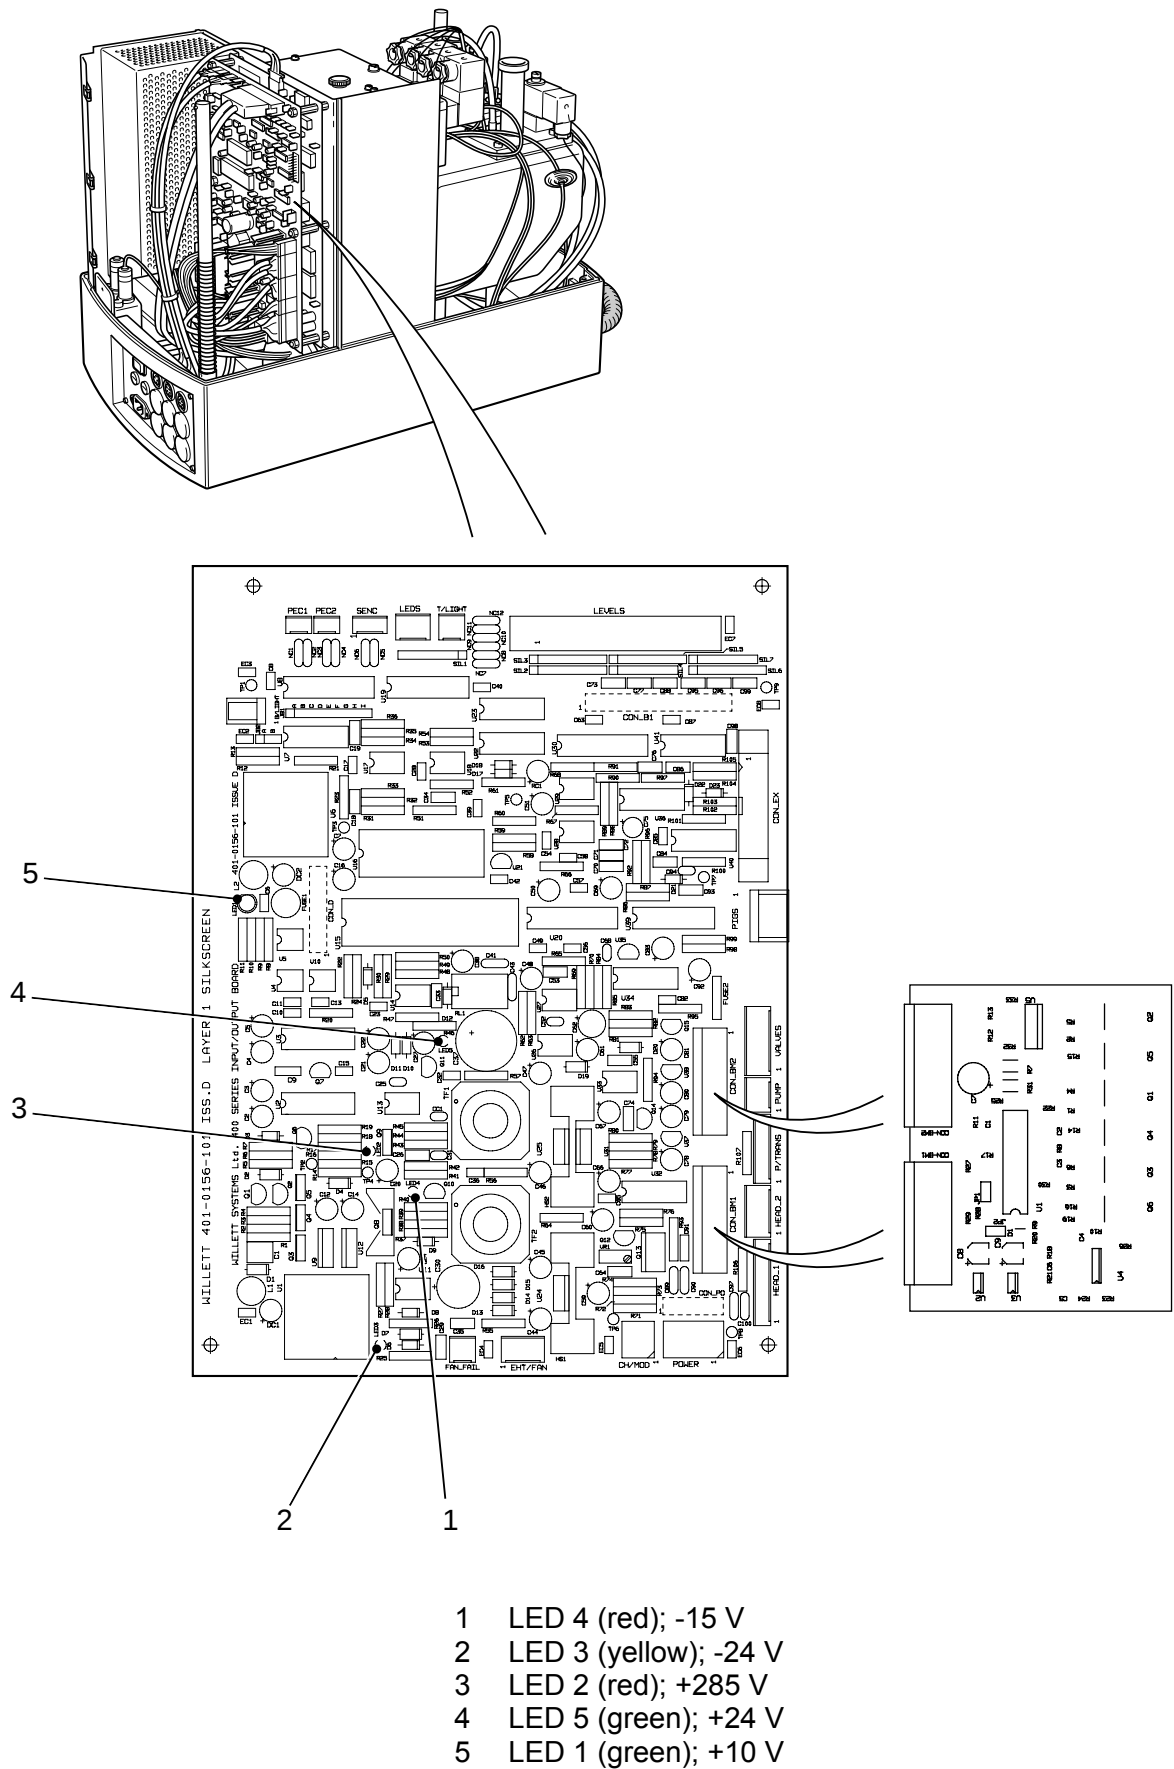

Fig 11.65 I/O board status LED location
- 100** Remove the printhead cover and check that LEDs 1, 3, 4 and 5 on the I/O board are illuminated and that LED2 is dimly illuminated. Refer to Fig 11.65 for the location of the LEDs. The LEDs represent the following voltage rails. Refit the printhead cover when the checks are complete.